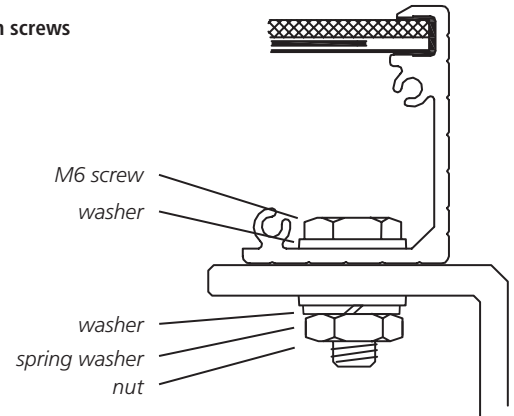

Figure 3
- Determine the nominal system array voltage of your system. Each panel is equivalent to a 12 VDC nominal block for 12S modules and 24 VDC nominal block for 24S modules. Standard array voltages 12, 24, 48 and 96V are shown as examples in Figure 3.